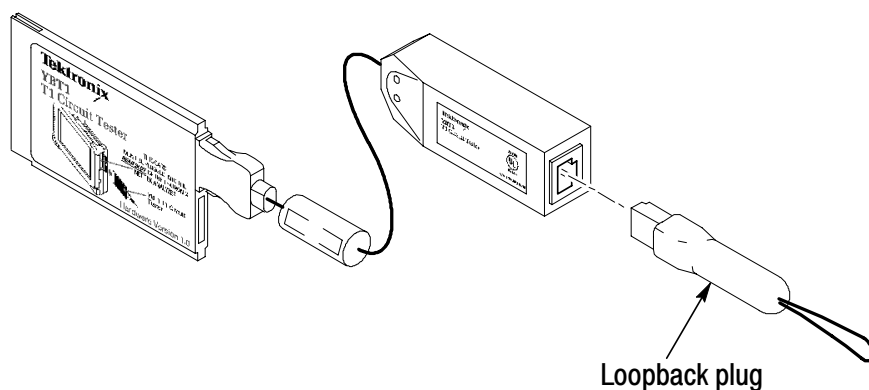

Figure 1-5: Inserting the Loopback Plug into the T1 Line Interface
1. Insert the RJ48 Loopback Plug into the T1 Line Interface as shown in Figure 1-5.